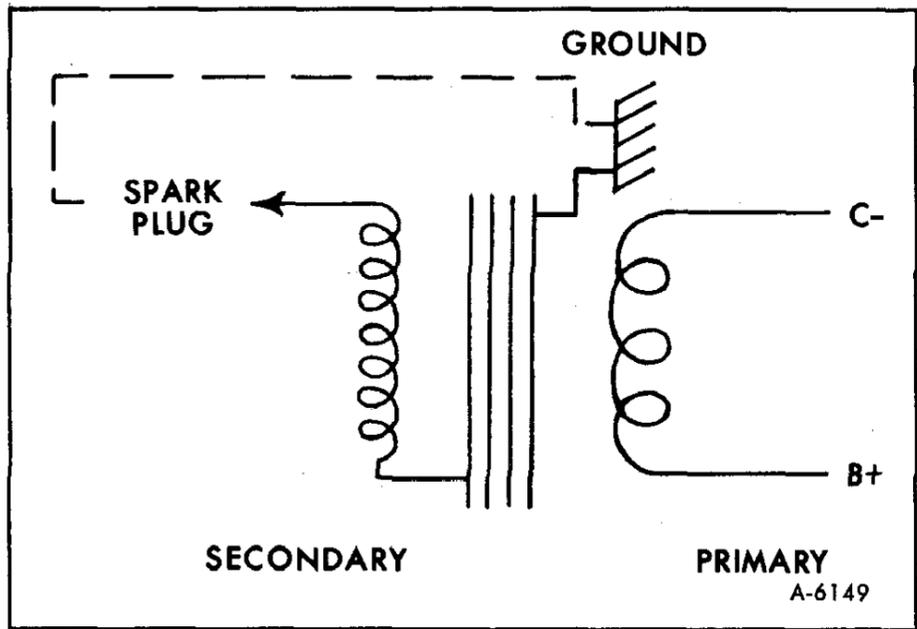

Figure 12—Ignition Coil Schematic
**NOTE:** The yellow and red wires are both primary. The two black wires are ground for secondary. The primary and secondary coil windings are isolated, as shown in figure 12.